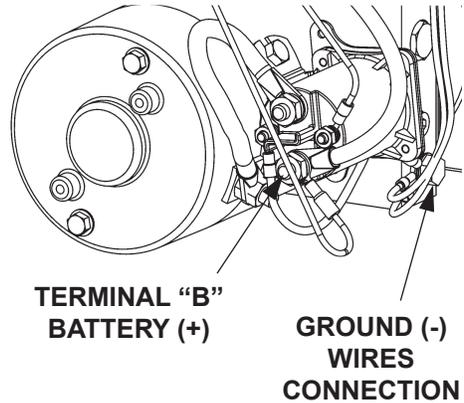

FIG. 52-1
1. Connect voltmeter between motor solenoid terminal “B” and ground (-) wires connection on pump (FIG. 52-1). Verify that battery power is getting to “B”. Recharge the battery if voltmeter indicates less than 12.6 volts dc.